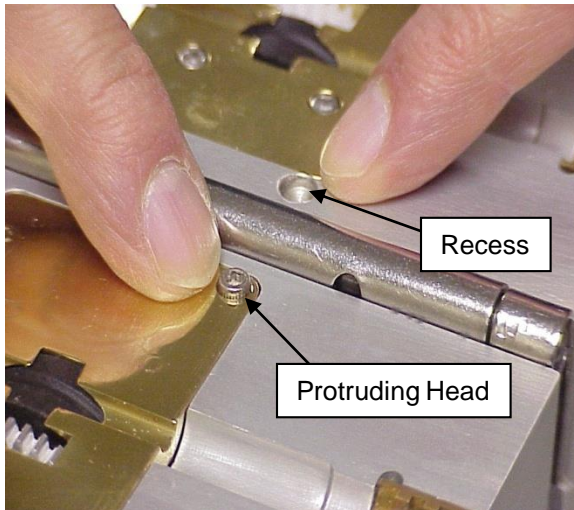

Figure 38
13.5.1.8 **Important Note.** When properly assembled, the heads of the two (2) long machine screws that secure Lower Brass Plate to lower Blowing Head section will protrude above brass plate by about 1/16” (i.e.: not be flush with brass plate). This is correct. Do not attempt to tighten machine screws any further. Protruding screw heads fit into recesses located in upper Blowing Head section and act as aligning pins when Blowing Head is closed. **See Fig. 38.**